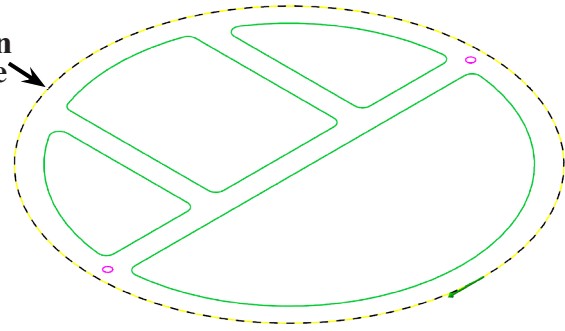

Fig. 28
Step 4. Click **Base circle** to chain, **Fig. 28**.